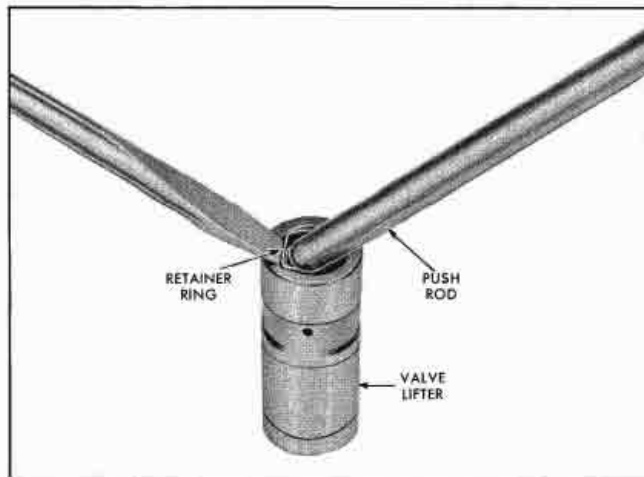

Fig. 6-25 Removing Push Rod Seat Retainer Ring
1. Remove push rod seat retainer ring by holding seat down with push rod while dislodging spring from lifter body with a pointed tool (Fig. 6-25).